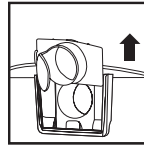

FIGURE 22
29. Remove the inlet deflector from the deflector guide. **NOTE:** Hose must be removed before the inlet deflector can be taken out. **FIGURE 22.**